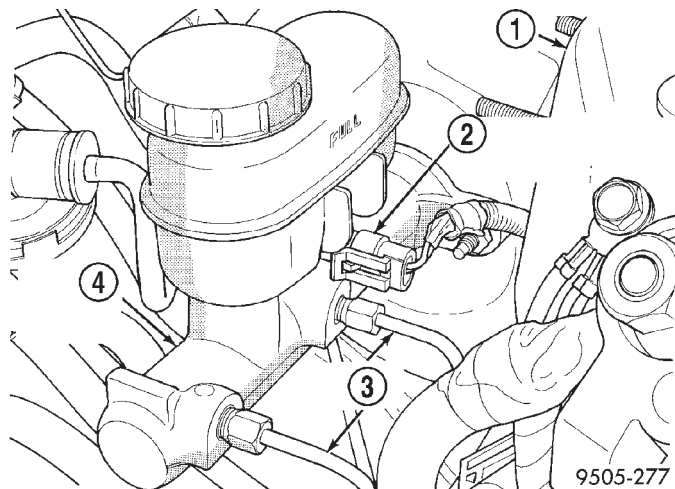

Fig. 68 Master Cylinder Brake Fluid Level Sensor
(8) Remove the wiring harness connector from the brake fluid level sensor in the master cylinder fluid reservoir (Fig. 68).
(12) Install the vehicle's wiring harness connector on the master cylinder brake fluid level sensor (Fig. 68).